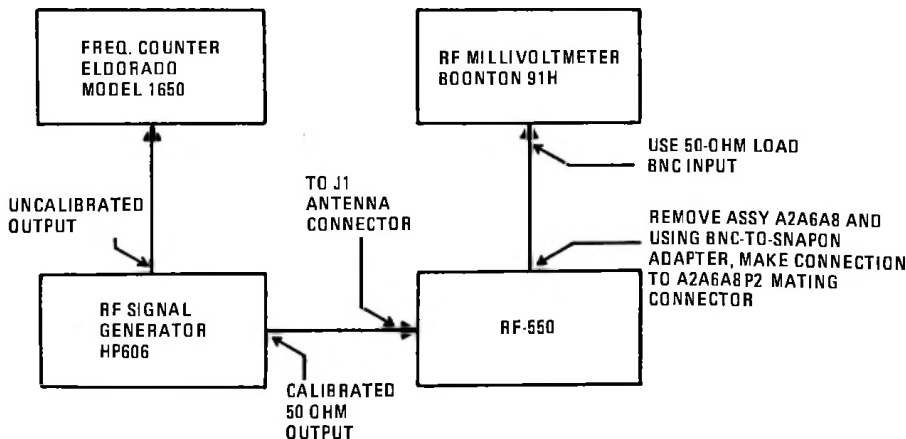

Figure 1. Test Setup, Assembly A2A6A10
- b. Set up equipment as shown in figure 1.